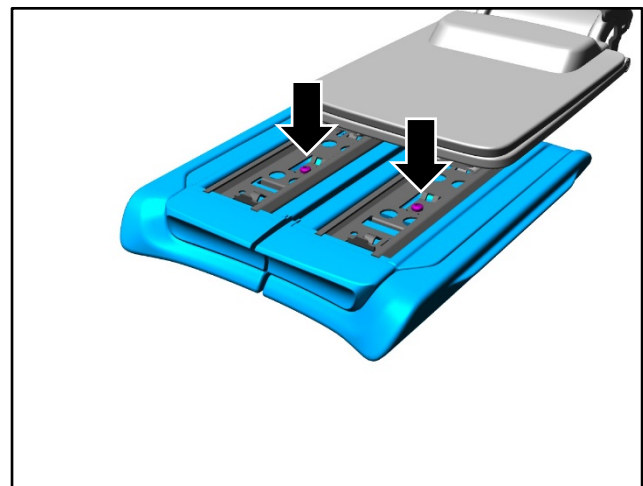

Figure 16
10. Remove the two bolts to release the centre console lid covers. Remove the centre console lid covers from the rails (refer to Figure 16).